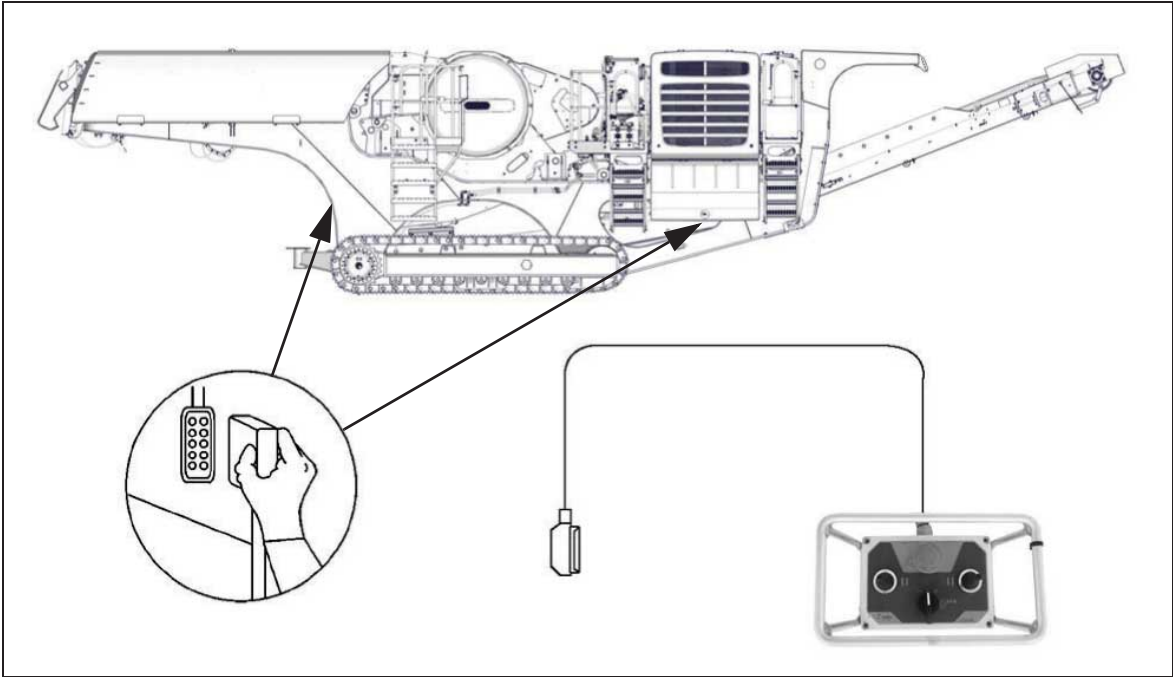

Figure 11. Connecting the cable drive control device
- 3. Disconnect the drive control device from its socket if it is connected. Refer to Figure 11. Connecting the cable drive control device.